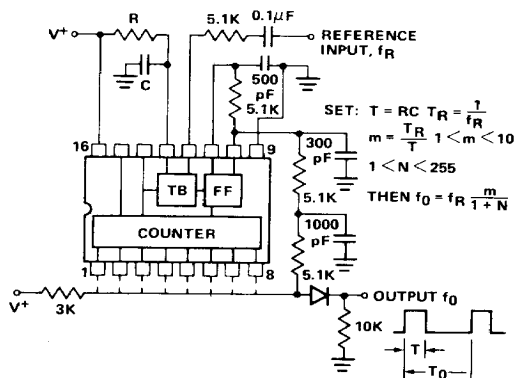
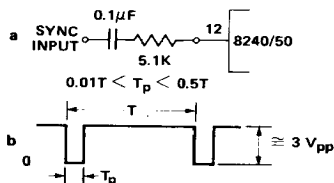
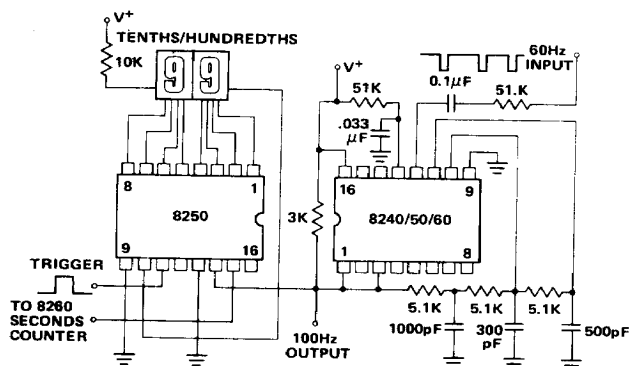

FIGURE 25: Frequency Synthesis by Harmonic Locking to an External Reference
FIGURE 26: Operation with External Sync Signal.
FIGURE 29: Front End for High Resolution Timer
The period  $T$  of the time-base oscillator can be modulated by applying a dc voltage to this terminal (see Figure 11). The time-base oscillator can be synchronized to an external clock by applying a sync pulse to pin 12, as shown in Figure 26. Recommended sync pulse widths and amplitudes are also given in the figure.
**SYNTHESIS WITH HARMONIC LOCKING:** The harmonic synchronization property of the 8240/50 time-base can be used to generate a wide number of discrete frequencies from a given input reference frequency. The circuit connection for this application is shown in Figure 25. (See Figures 26 and 27 for external sync waveform and harmonic capture range.) If the time base is synchronized to  $(m)$ th harmonic of input frequency where  $1 \leq m \leq 10$ , as described in the section on "Harmonic Synchronization", the frequency of  $f_o$  of the output waveform in Figure 25 is related to the input reference frequency  $f_R$  as:
One particular application of the circuit of Figure 25 is generating frequencies which are not harmonically related to a reference input. For example, by choosing the external  $RC$  to set  $m = 10$  and setting  $N = 5$ , one can obtain a 100Hz output frequency synchronized to 60Hz power line frequency. See Figure 29.